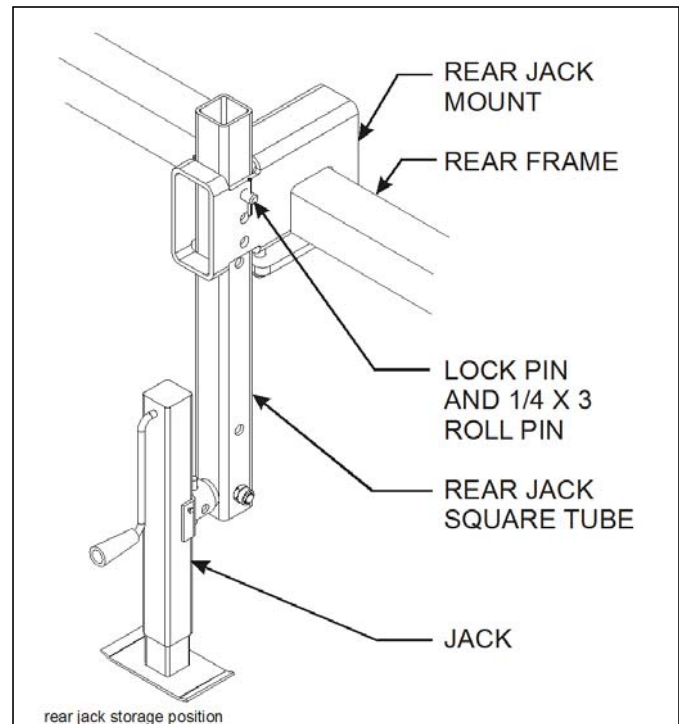

Figure 4-23: Rear Jack Transport Position
5. Slide the rear jack tube from transport position and into slot from bottom of rear jack mount. Pin jack tube in position. Attach jack to rear jack tube and pin in position. Crank jack until the rear of the machine is supported (**See Figure 4-23.**)